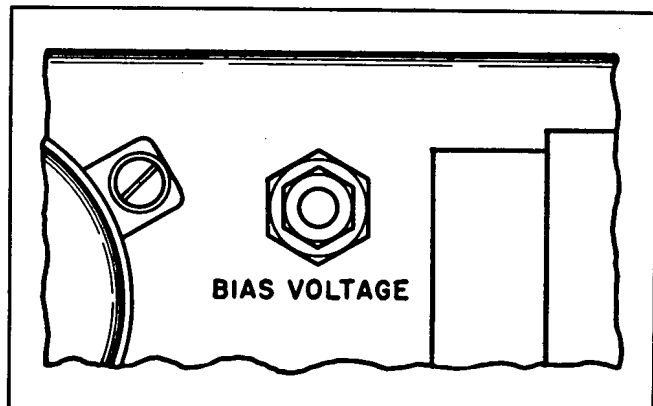

Figure 7-110. BIAS VOLTAGE Control on IFF Coordinator
(1) The purpose of this adjustment is to set the bias applied to the Eccles-Jordan multivibrator tubes in the unit. The bias may be adjusted over a range which permits the proper operation of new tubes, and tubes which have deteriorated slightly. The procedure that follows assumes that the IFF Coordinator is properly connected to the various components in the system and is being triggered with a trigger of at least 20 volts amplitude.
(2) Place the CHALLENGE switch on the front panel to its ON position. The IFF Transmitter may be turned off for the test.
(3) Connect a test oscilloscope such as a Dumont 208 or its equivalent between terminals 185 and 01. Disconnect the Range Scope leads from these terminals if a good pattern cannot be obtained otherwise. Two broad square pulses should be seen when the equipment is turned on.
(4) If the proper waveform is not observed, adjust the BIAS VOLTAGE control shown in Fig. 7-110 until the pulses appear and their amplitudes are approximately equal. Lock the control. The bias thus obtained is approximately -85 volts as measured from the arm of potentiometer R-944 to ground.